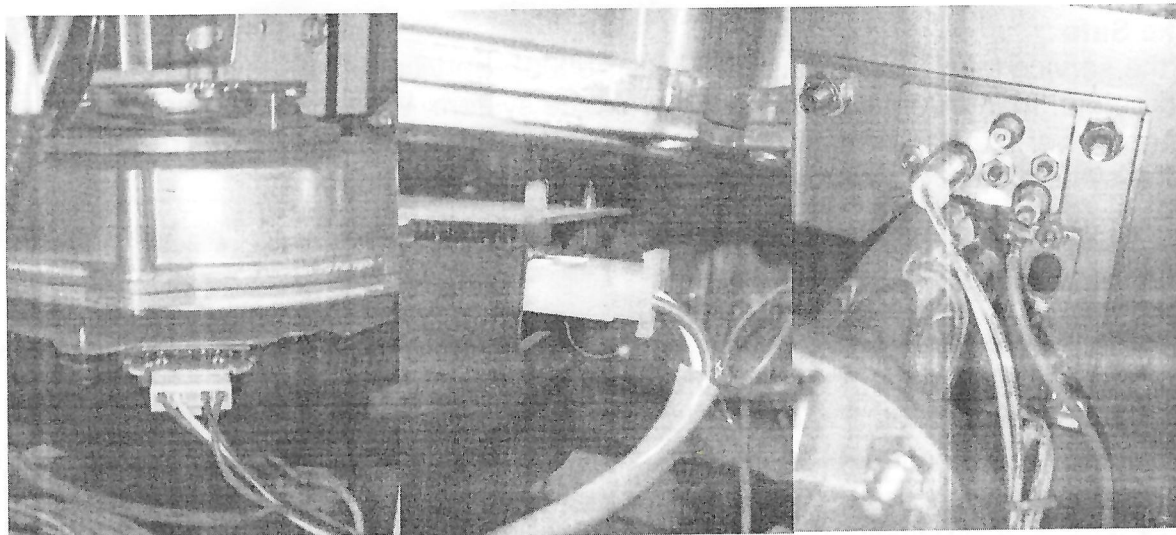

Figure 2: Burner Tube
- Undo the electrical connections to the blower, igniter, and flame proving switch. See Figure 2.